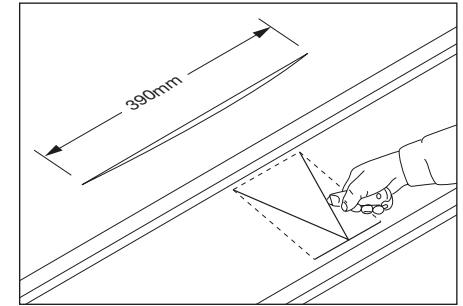

Fig. 4 – Make aperture in underlay
- 2 Determine position of tile vent terminal (ideally mid-span between rafters) and form a 'V' cut in the underlay to accommodate box spigot (Fig. 4).